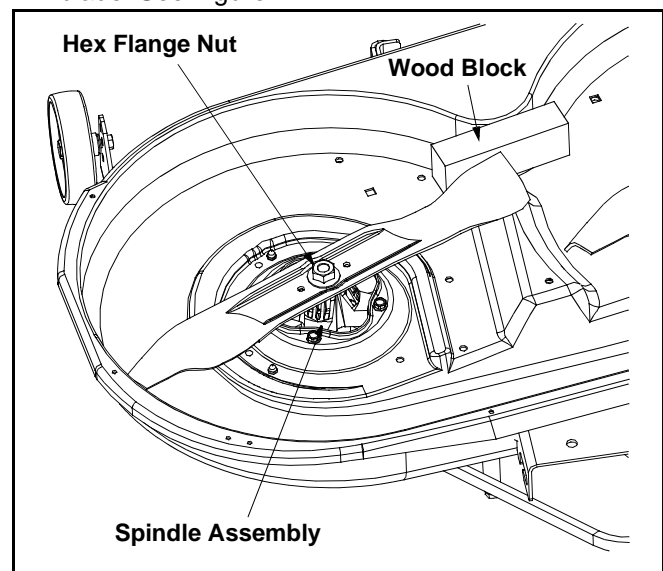

Figure 24
- Use a 1-1/8 inch wrench to hold the hex head of the spindle bolt when loosening the hex nut securing the blade. A block of wood may be placed between the deck housing and the cutting edge of the blade to assist in removal of the hex nut securing the blade. See Figure 24.
- Use a 1-1/8" wrench to remove the hex flange nut that secures the blade to the spindle assembly. See Figure 24.